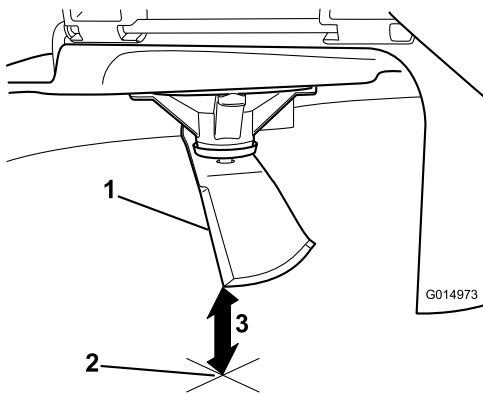

**Figure 45**
4. Rotate the same blade 180 degrees, so that the opposing cutting edge is now in the same position (Figure 45).